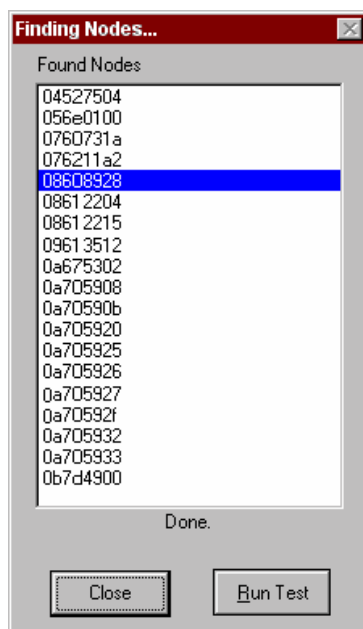

Figure 2-6 Searching Results For IB Connected Devices
2. Observe the Find Nodes dialog box, and note that the address of each IB connected device appears on the screen (see Figure 2-6).